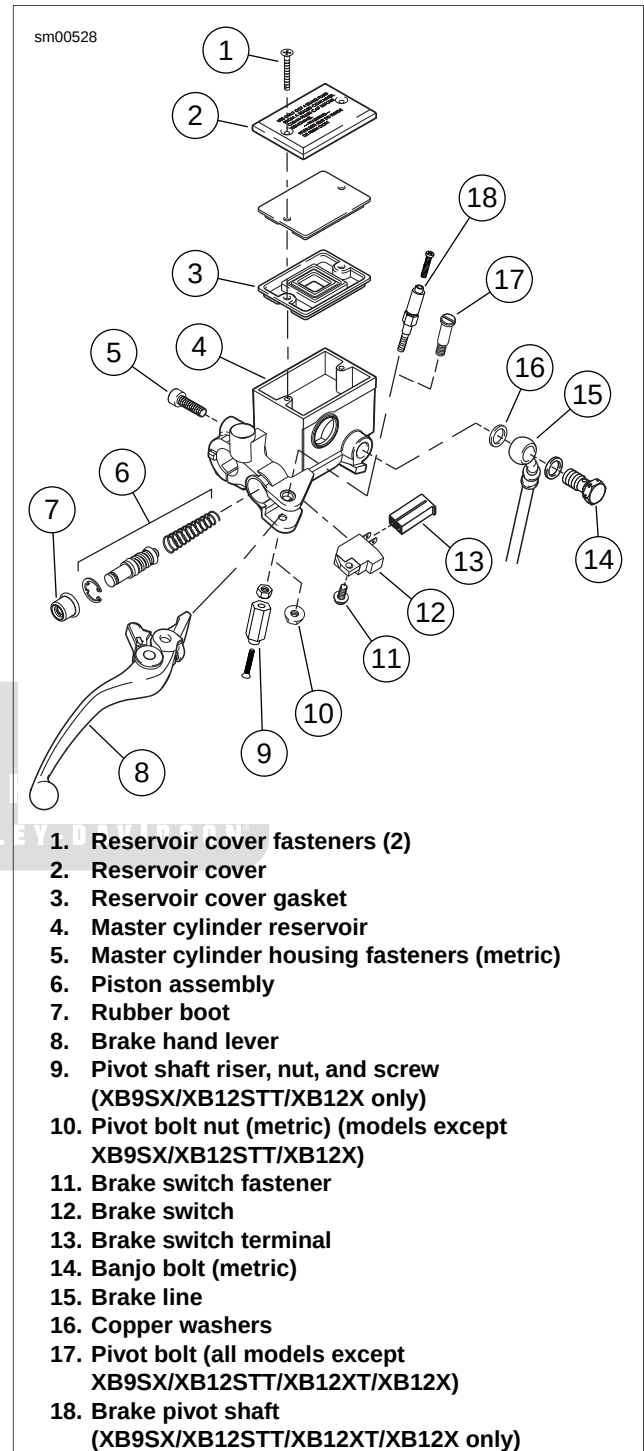
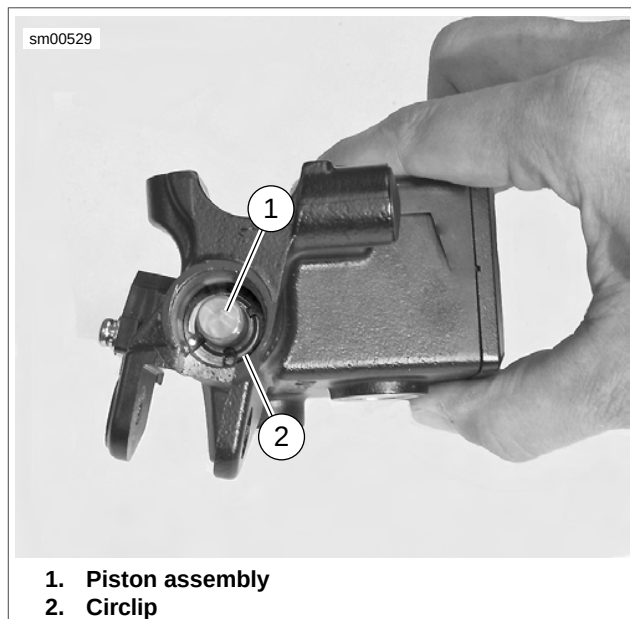

Figure 2-34. Front Brake Hand Lever Assembly
Figure 2-35. Piston Assembly in Master Cylinder
3. See Figure 2-34. Remove the banjo bolt (14) (metric) and two copper washers (16) to disconnect brake line (15) from master cylinder (4). Discard copper washers.
4. Unplug terminal (13) to detach brake lamp switch (12).
1. See Figure 2-34. On XB9SX, XB12STT, XB12XT and XB12X models, remove the pivot shaft riser and nut (9)
- from the brake pivot shaft (17) to detach the brake hand lever (8).
- On all other models, remove pivot bolt nut (10) (metric) and pivot bolt (17) to detach the brake hand lever.
- Detach front brake hand lever (8).
- Detach front brake switch (12) by removing the brake switch fastener (11).
- See Figure 2-34. Remove reservoir cover (2) by removing cover fasteners (1).
- Remove rubber boot (7) and discard.
- See Figure 2-35. Depress piston assembly (1) and remove internal circlip (2) and discard.
- See Figure 2-34. Remove piston assembly (6) from master cylinder reservoir (4) and discard.
- See Figure 2-34. Insert piston assembly (6), spring first, into master cylinder reservoir (4).
- See Figure 2-35. Secure piston assembly (1) with a **new** circlip (2).
- See Figure 2-34. Lubricate pivot bolt (17) with LOCTITE ANTI-SEIZE.
- Align hole in brake hand lever (8) with hole in hand lever pivot. Install pivot bolt (17) through top of hand lever pivot.
1. See Figure 2-34. Install front brake switch (12).
- a. Install brake switch (12) with switch fastener (10) and tighten to 7-10 **in-lbs** (0.8-1.0 Nm).
- b. Connect brake switch terminal (13) to brake switch (12).
3. See Figure 2-34. Connect brake line to master cylinder using two **new** copper washers (16) and banjo bolt (14) (metric) and tighten to 16-20 ft-lbs (22-27 Nm).
10. See Figure 2-34. Attach master cylinder cover (2) and cover gasket (3). Tighten two cover fasteners (1) to 9-13 **in-lbs** (1.0-1.5 Nm).
5. See Figure 2-34. Remove master cylinder banjo bolt (metric) (14) and two copper washers (16) to disconnect brake line from master cylinder. Discard copper washers.
1. See Figure 2-34. Connect brake line (15) to master cylinder reservoir (4) using two **new** copper washers (16) and a banjo bolt (14) (metric). Loosely install bolt into master cylinder.